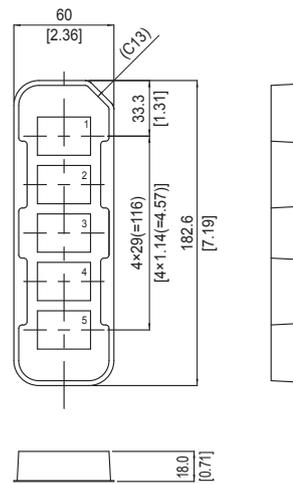

Fig.8.1 Delivery package information
■ Please refer to Figure 8.1 for the packaging format (tray).